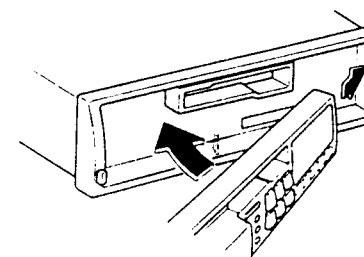

Fig. 4
1. Check that there is no dirt, etc., in the grooves on the unit, then insert the detachable front panel from the right side. (Fig. 4)
- (1) After removal of Nose Unit, remove two screws marked "▲" and the Hooks (b) as shown in Figure 4.
- (2) Remove one screw marked "※" and the Hooks (c) as shown in Figure 4.
<Figure 4>